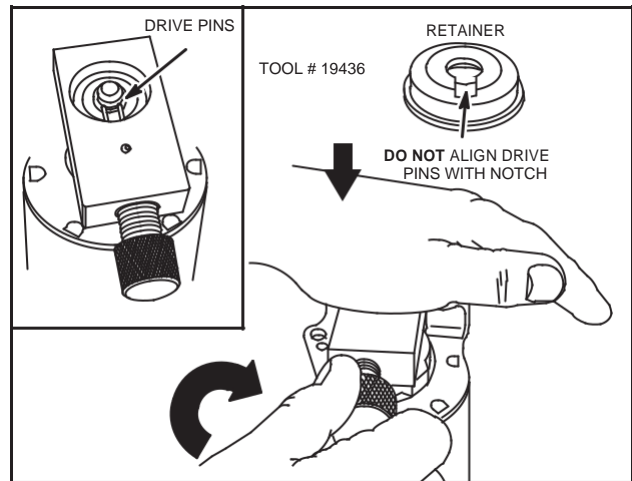

Fig. 8 – Removing C-Ring
1. Place counterbore side of Tool #19436 over retainer and align drive pins with open end of C-Ring, Fig. 8.